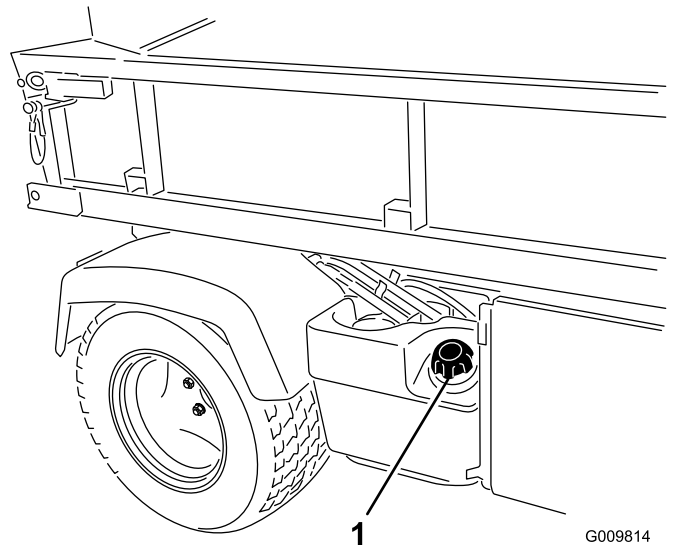

Figure 15
2. Remove the fuel tank cap (Figure 15).